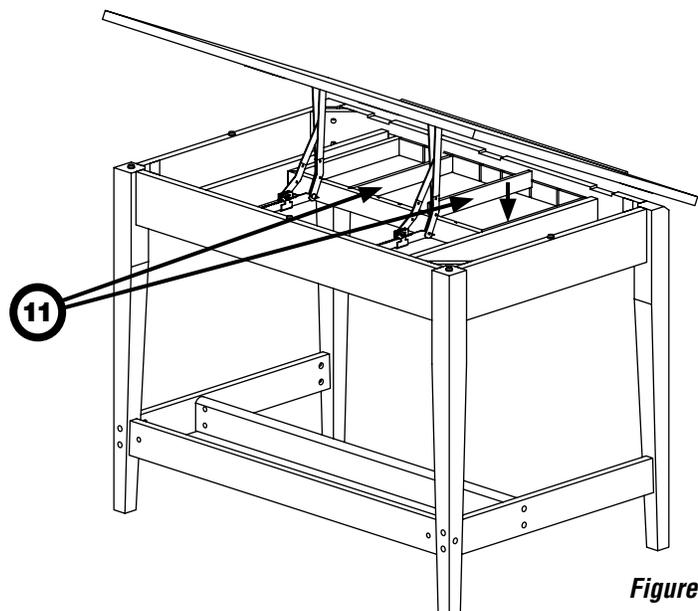

Figure 6
- 2** Insert drawer dividers (**11**) into desired slots as shown in *Figure 6*.